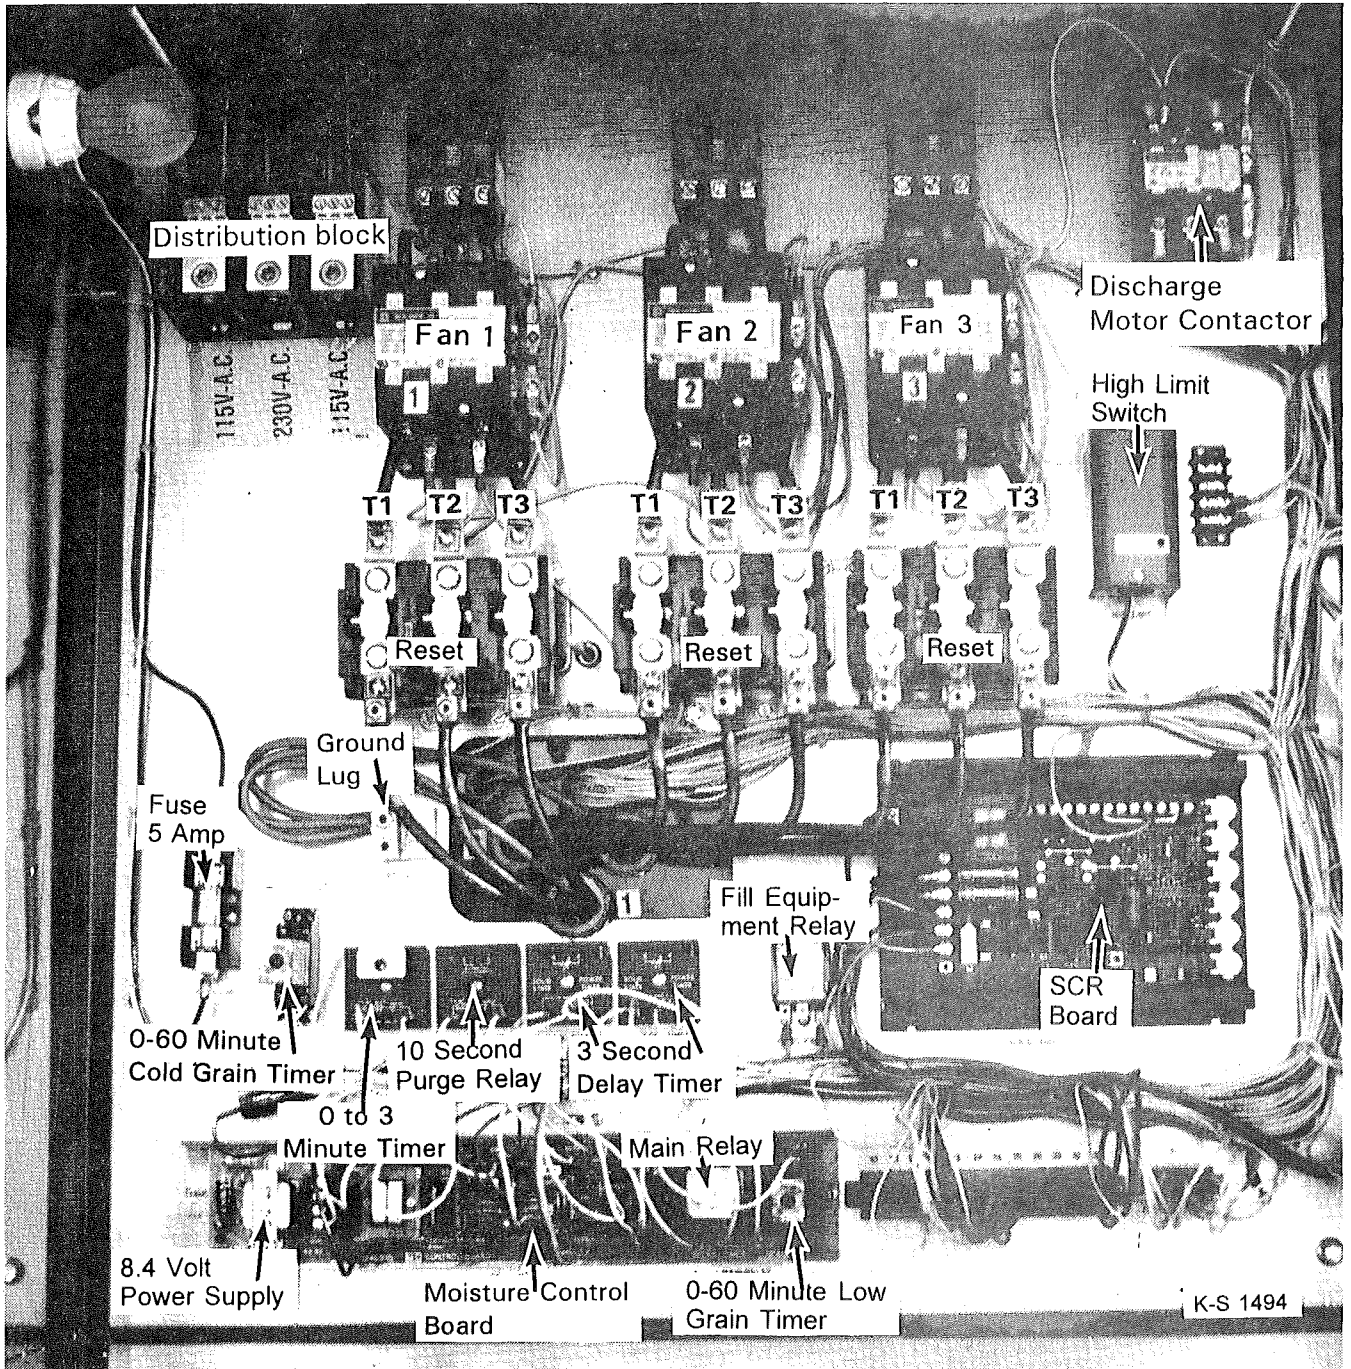

Figure 13
2. Connect the power source to the lugs on the power distribution block. See Figure 13.
IMPORTANT: The dryer controls operate on 60 cycle single phase 115V power. Dryers that operate on 230V three phase power must have the 230V supply wire connected to the center lug of the distribution block as shown in Figure 13. If the 230V power supply is connected to a 115V lug and the 115V wire that supplies power to the dryer controls is connected to this lug by mistake, the dryer controls will be damaged by the 230 high voltage power. For
Three phase motors - Move the wire from terminal T1 to T3 and T3 to T1 on the fan magnetic starter in the control cabinet. See Figure 13.